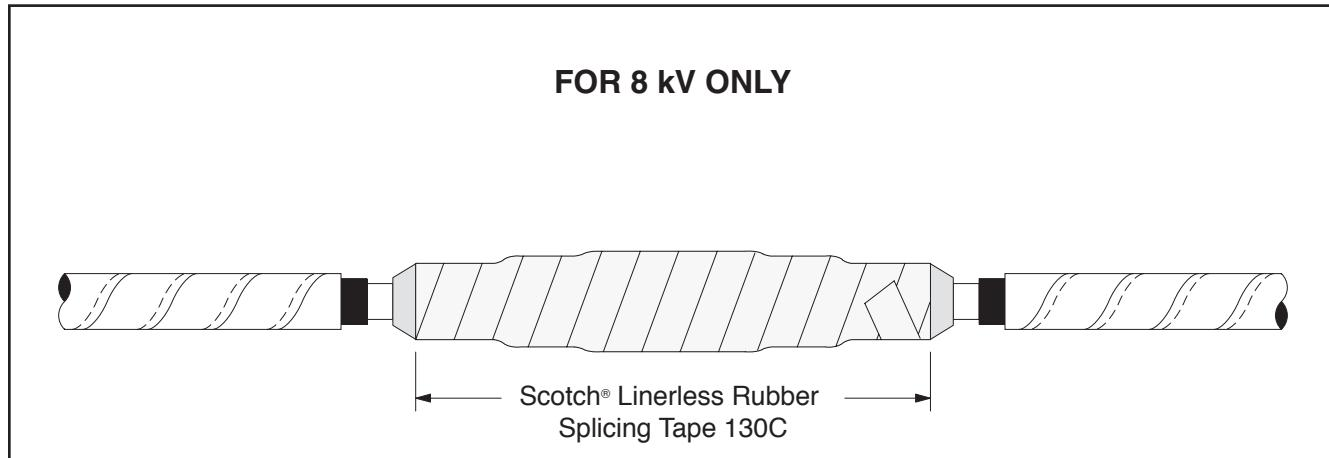

Figure 13
- For 8kv rating only, apply 2 half-lapped layers of stretched Scotch® Linerless Rubber Splicing Tape 130C over the cold shrink insulator between the end tapers (*Figure 13*).